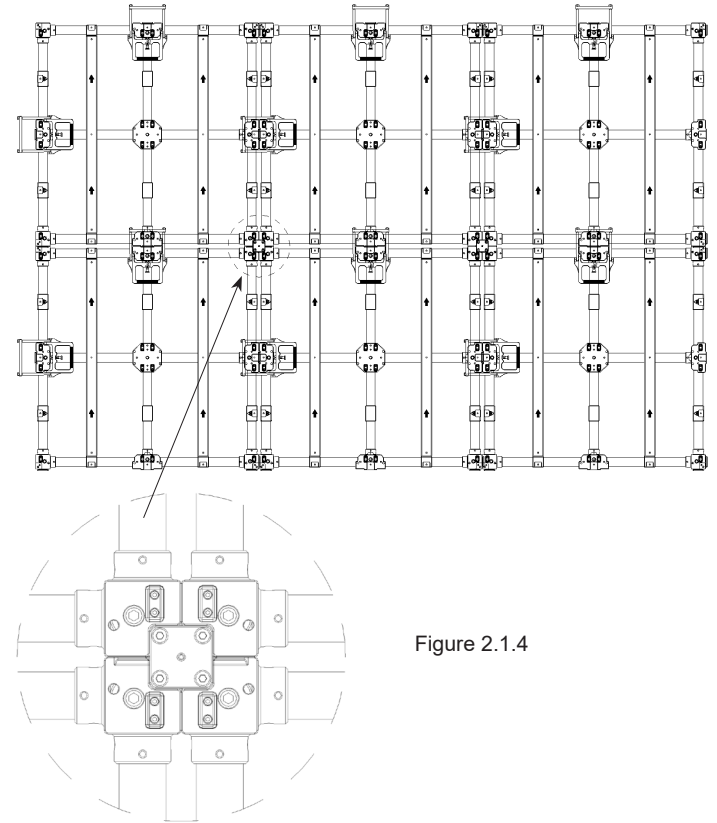

Figure 2.1.4
Step 4: Fix connecting piece A to the adjacent floor tile brackets at the four corners with metric screws M6*16 (Figure 2.1.4).